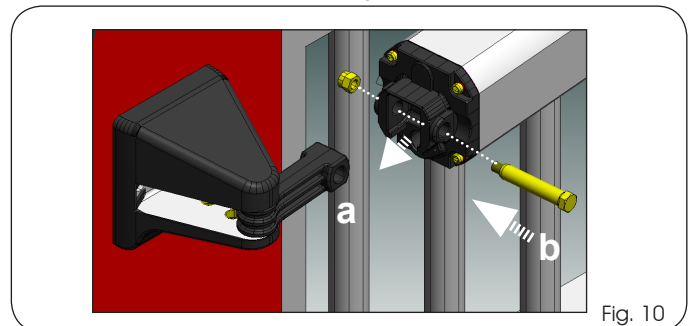

Fig. 10
5. Assemble the operator and the rear bracket by means of the pin and nut supplied (Fig. 10 Ref. a - b).